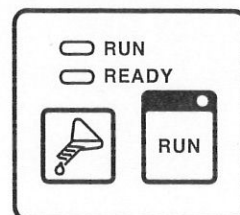

fig.9
- The **READY** lamp will go out. (fig.9)